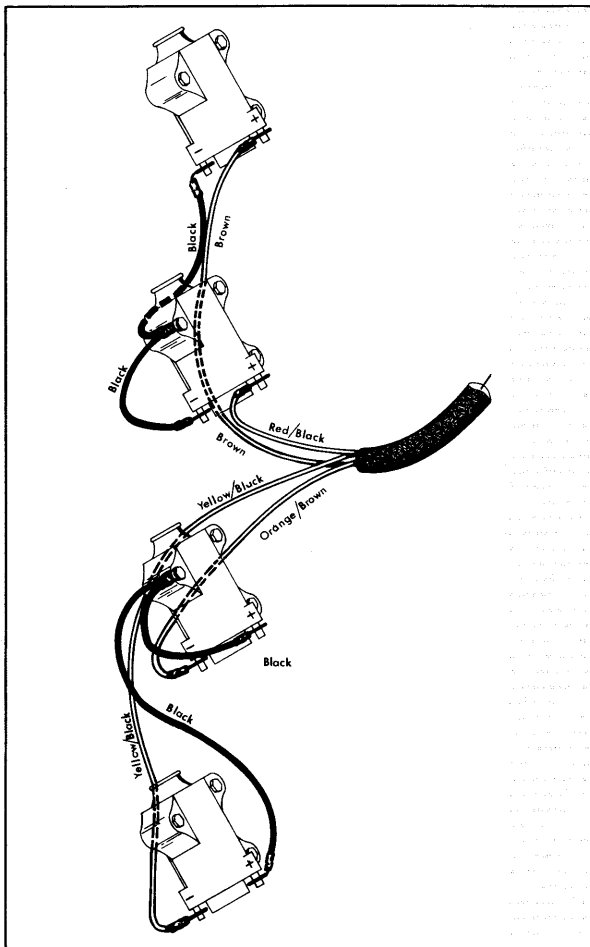

Figure 10 - Wiring Ignition Coils
- A. Install lockwashers and lead wires on ignition coil terminals and secure with hex nuts. See figure 10.